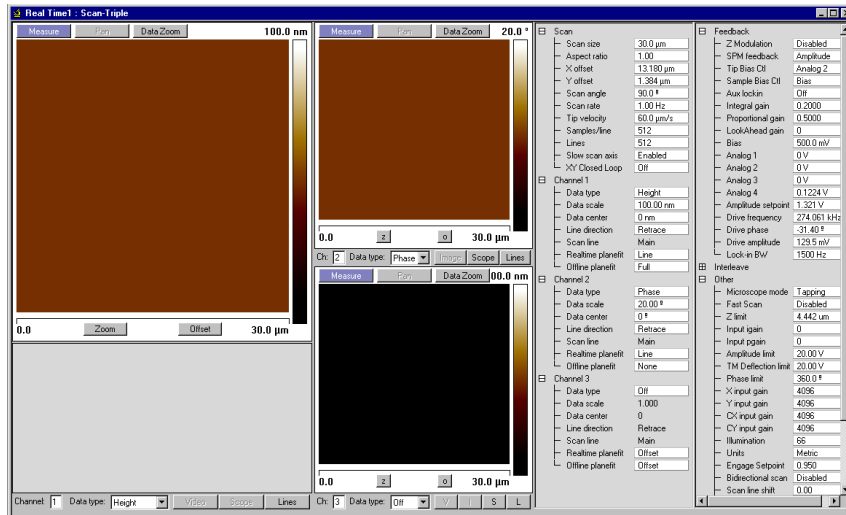

Figure 16: the scan triple window.
- “Scan Triple” is exactly the same than “scan dual” but with three channels (Figure 16).